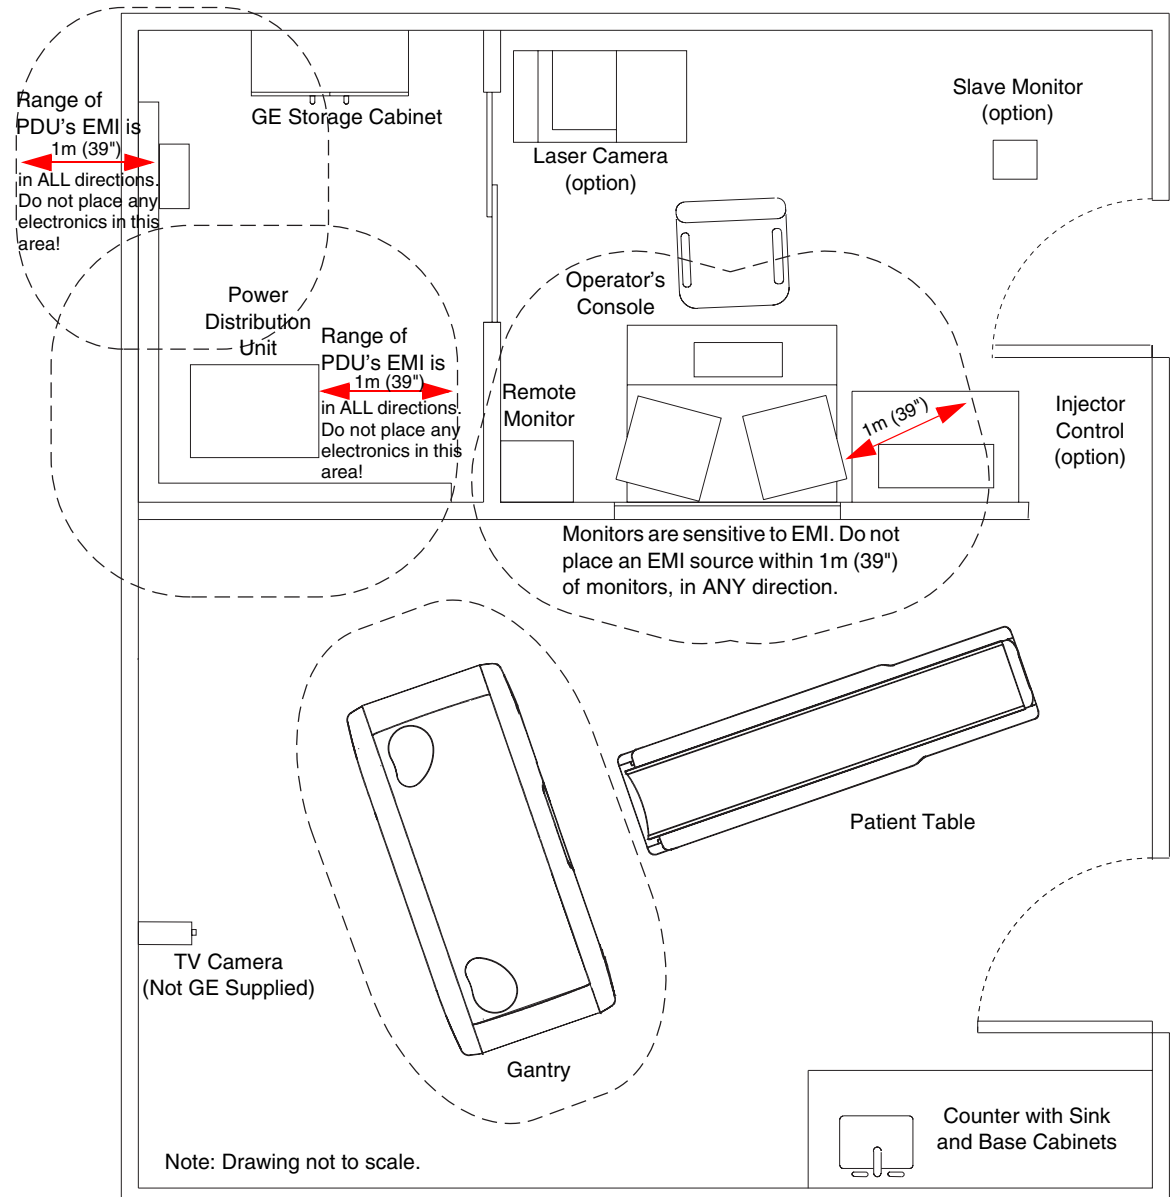

Figure 1-1 Sample room layout, showing optional remote (slave monitor) LCD/CRT
- Remote/slave monitor in review room (see Figure 1-1)